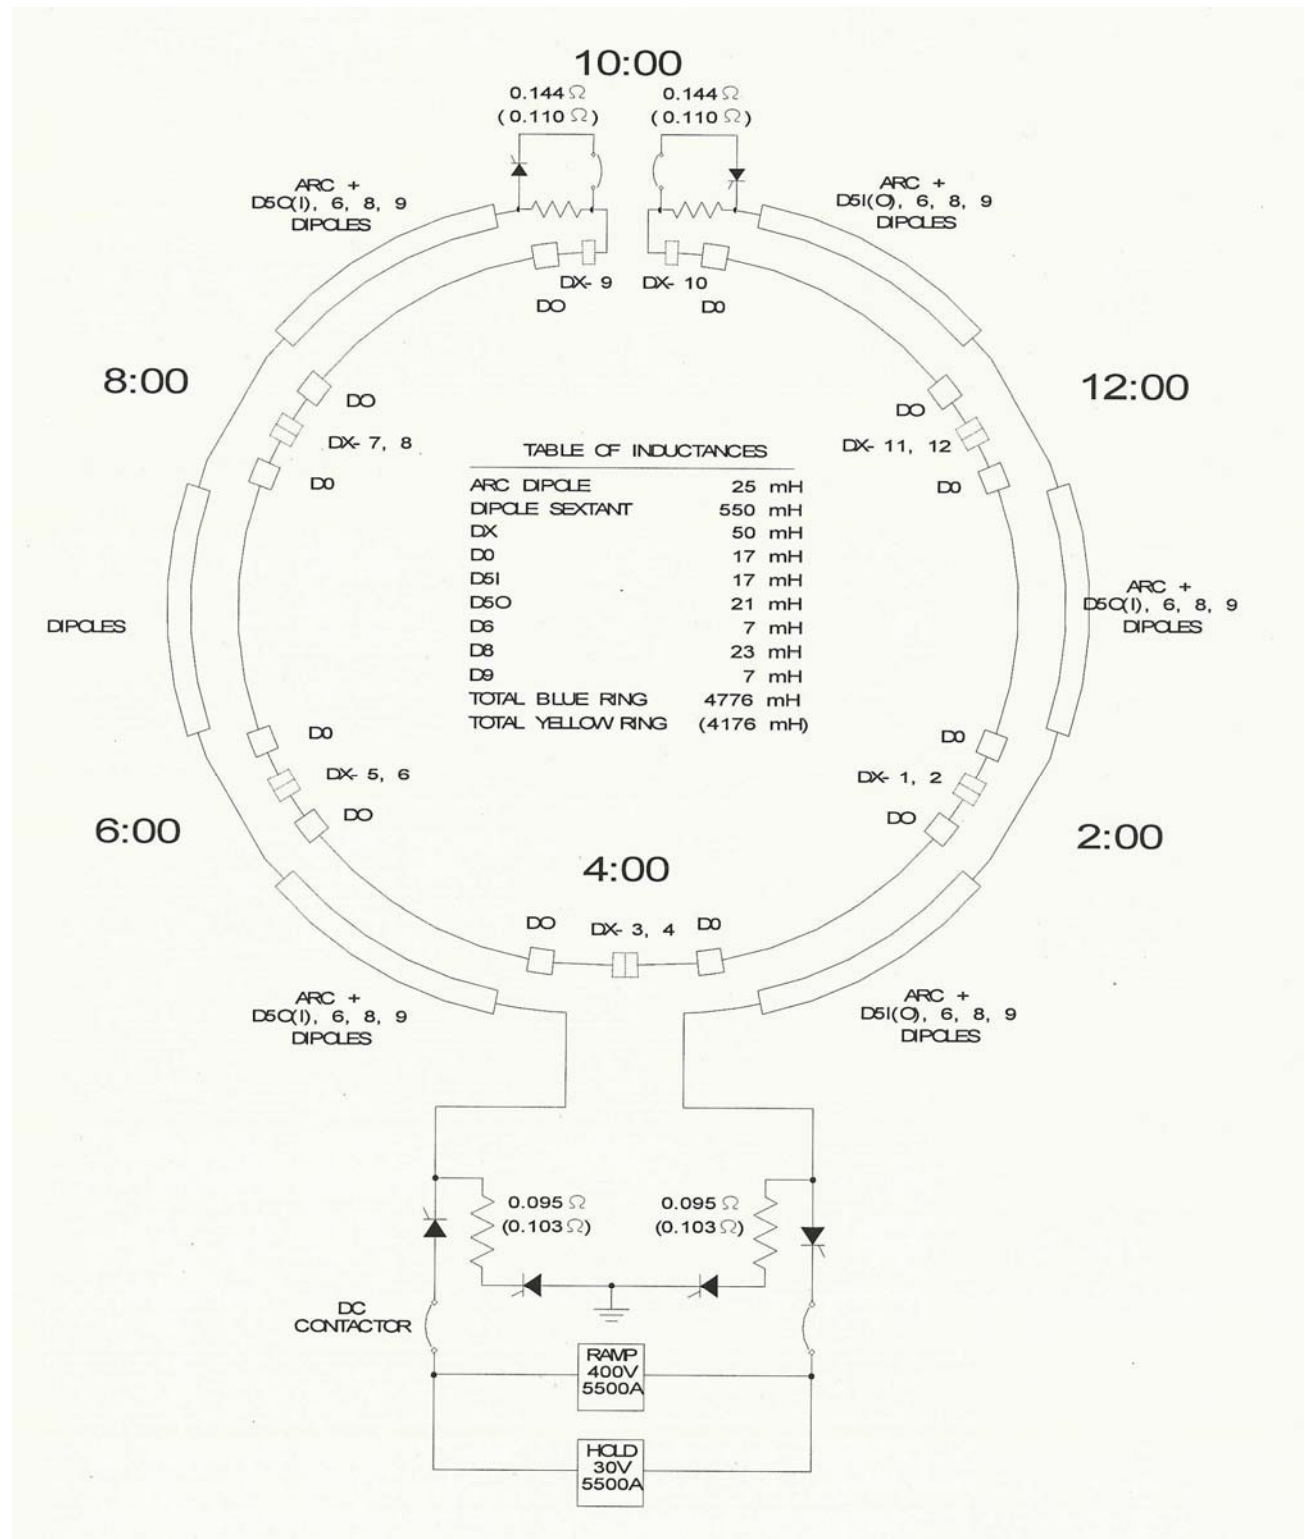
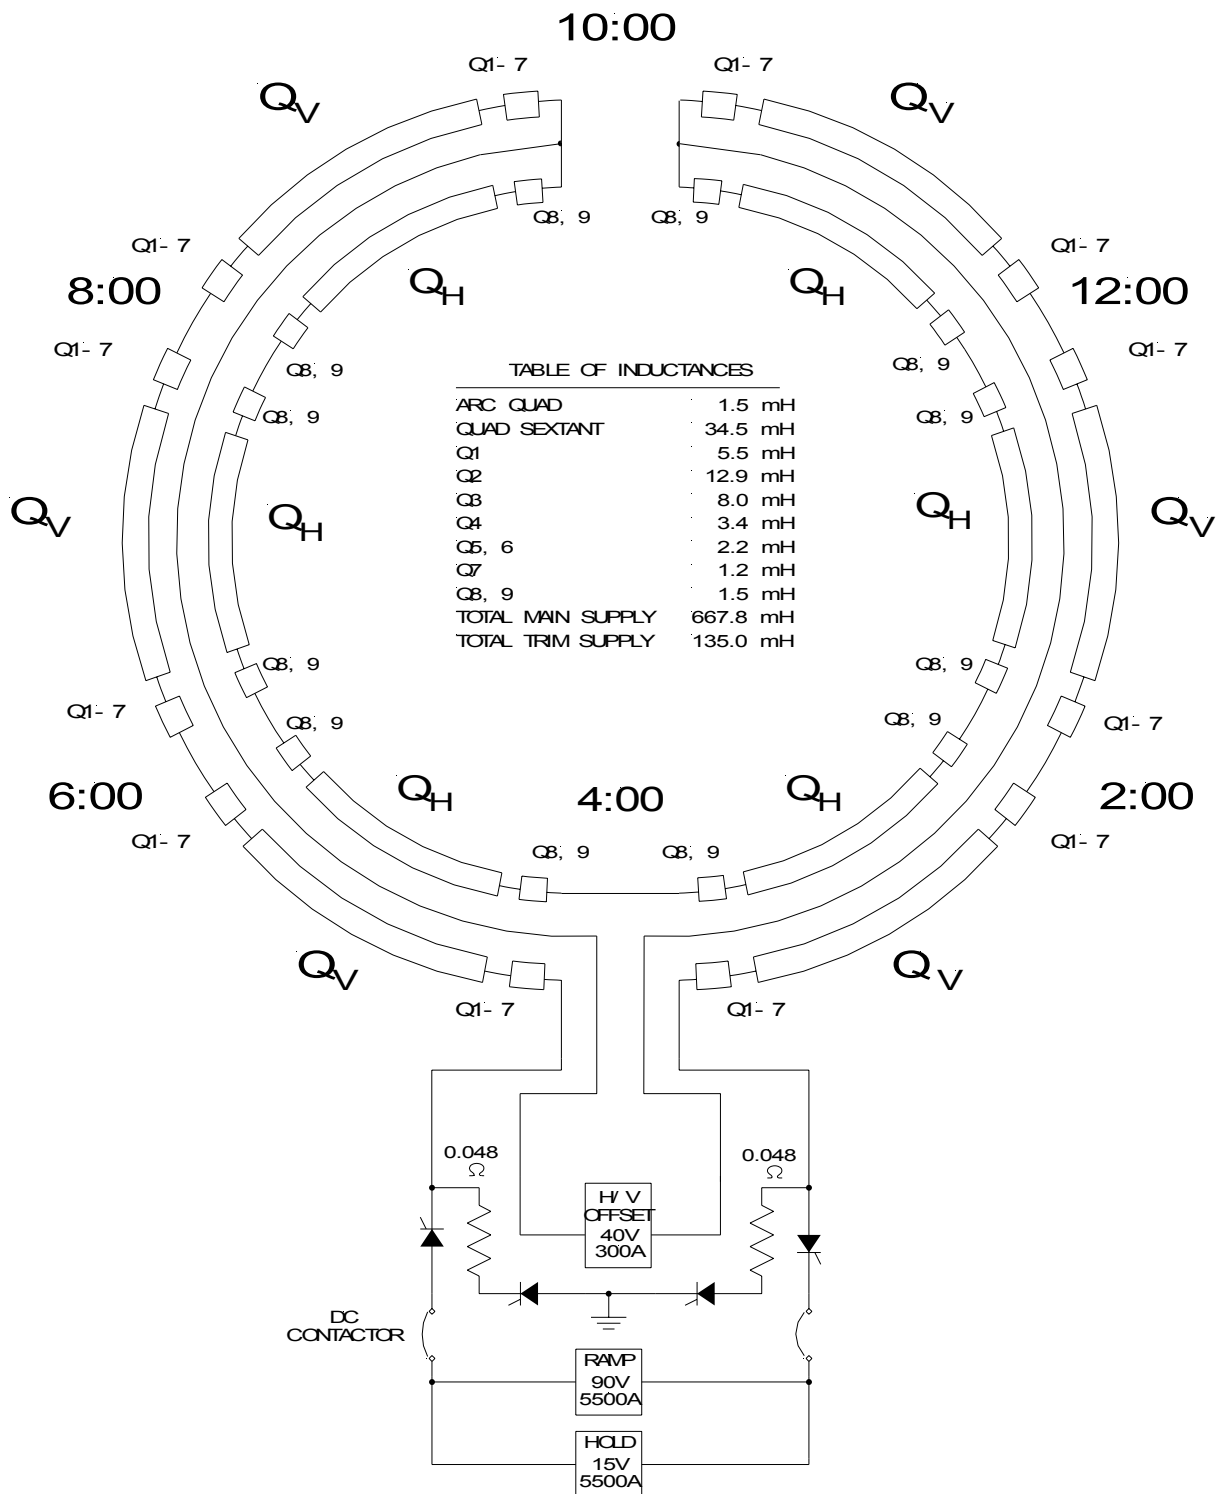

Fig. 2-2. Main dipole bus layout. The DX dipoles are in the blue ring bus only.
Fig. 2-3. Main quadrupole bus layout.
The diagrams of Figs. 2-2 and 2-3 show the dipole and quadrupole bus arrangements. The dipole circuit is powered from the 4:00 insertion region, with the return busses coming back at 10:00. Dump resistors are at 4:00 and 10:00, and are split for symmetry. The insertion dipoles, D0, and in the blue ring, DX, are connected in the return path. This keeps them near ground potential during a quench, and is done to minimize the stress on power supplies shunting them. In the quadrupole circuit, the H/V Offset also has quench protection, but it is not shown.
In Fig. 2-2 there is a table of Inductances. The arc dipole is 25mH. The dipole sextant is made up of arc dipoles D10-D20 and D20-D10. Each one of these dipoles is 25mH and the total is $25\text{mH} \times 22$ magnets for a total of 550mH. In Fig. 2-2 between 8:00 and 10:00, D5O(I) indicates D5 outer for blue and inner for yellow. Then between 6:00 and 8:00 D5I(O) indicates D5 inner for blue and outer for yellow. The energy extraction resistor values, at 4:00 and 10:00 in Fig. 2-2, for the yellow ring are in parenthesis and the values for the blue ring are not in parenthesis. In Fig.2-3 a quad sextant is defined as $Q_V + Q_H$. Where $Q_H = 11 \text{ magnets} \times 1.5\text{mH} = 16.5\text{mH}$ and $Q_V = 12 \text{ magnets} \times 1.5\text{mH} = 18\text{mH}$. $16.5\text{mH} + 18\text{mH} = 34.5\text{mH}$ for a quad sextant. The 11 magnets in Q_H are Q11, Q13, Q15, Q17, Q19, Q21, Q19, Q17, Q15, Q13 and Q11. The 12 magnets in Q_V are Q10, Q12, Q14, Q16, Q18, Q20, Q20, Q18, Q16, Q14, Q12, Q10.